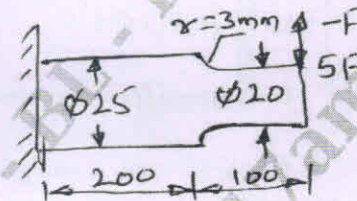

Fig.Q1(c)
c. A cantilever beam is C-45 steel is subjected to completely reversed bending load varying from $5F$ to $-F$ as shown in Fig.Q1(c). Determine the maximum load the member can carry for infinite life. Take $\sigma_y = 353$ MPa and $\sigma_u = 640$ MPa for the material. Assume FoS = 2.